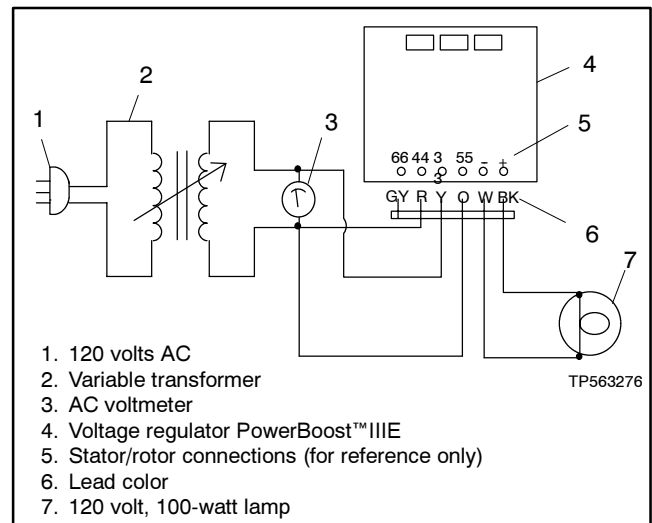

Figure 6-5 Voltage Regulator Test Connections
1. Connect the components as shown in Figure 6-5.